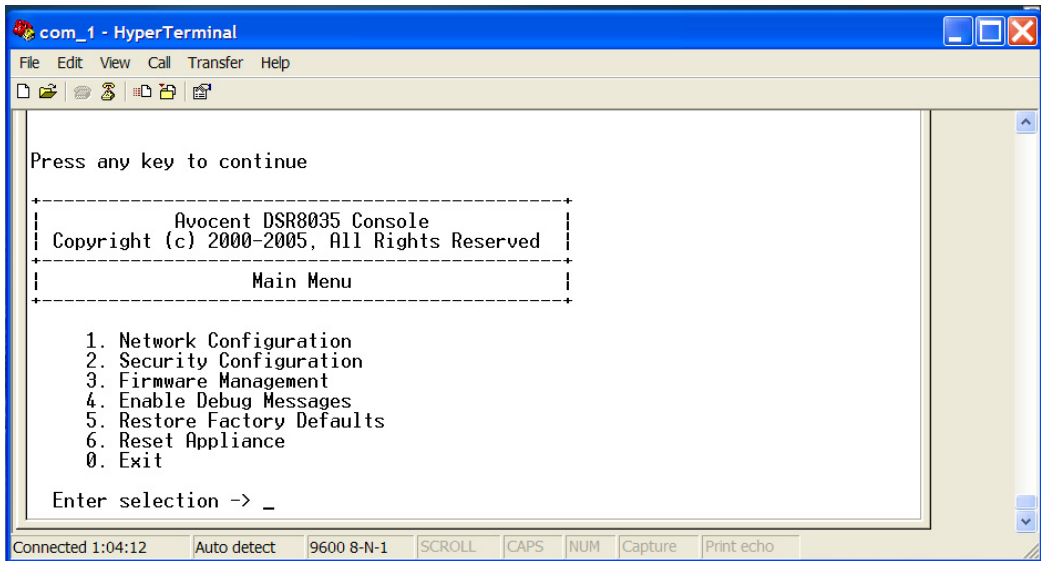

Figure 6.1: Console Main Menu
1. When you power up your DSR2035/8035 switch, the switch initializes for approximately one minute. After it completes initialization, press any key on the terminal or on the PC running the terminal emulation software to access the Console menu interface shown in Figure 6.1 on page 76.